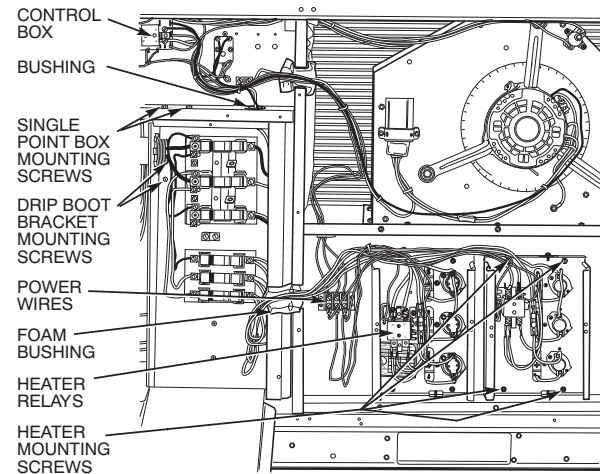

Fig. 36 - Typical Single Point Kit Installation
7. Remove the single point box cover. Secure single point box to the underside of the control box with the two screws provided. Re-install bushing on the SPB tap conductors (See Fig. 36).